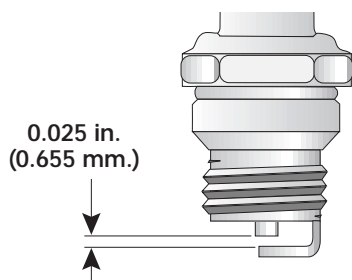

Fig. 68
3. Replace cracked, fouled or dirty spark plug. Set the air gap at 0.025 in. (0.655 mm.) using a feeler gauge (Fig. 68).